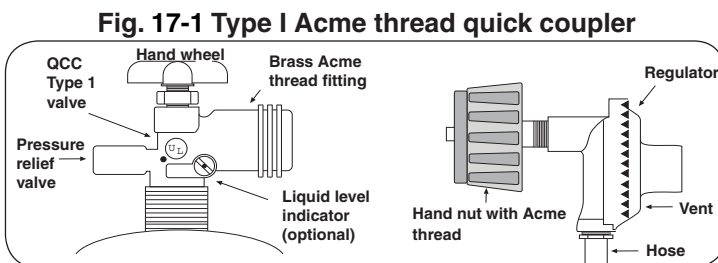

Fig. 17-1 Type I Acme thread quick coupler
- The pressure regulator and hose assembly (Fig. 17-1) supplied with this outdoor gas appliance (L.P. models only) must be used. Original and replacement pressure regulator and hose assemblies must be those specified by the manufacturer for connection with a cylinder connecting device identified as Type I by the *ANSI Z 21.58-2005/CGA 1.6-2005* (see PARTS LIST for ordering information).
**To disconnect:** Turn the hand nut counterclockwise until detached (Fig. 17-1).